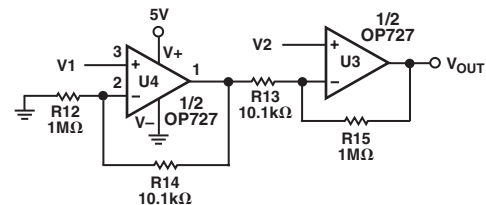

Figure 5. Single-Supply Micropower In-Amp
OP727 can be used to build an instrumentation amplifier (IA) with two op amps. A single-supply instrumentation amplifier using one OP727 amplifier is shown in Figure 5. For true difference, $R14/R12 = R15/R13$. The formula for the CMRR of the circuit at dc is $CMRR = 20 \times \log (100 / (1 - (R15 \times R14) / (R13 \times R12)))$. It is common to specify the accuracy of the resistor network in terms of resistor-to-resistor percentage mismatch. The CMRR equation can be rewritten to reflect this $CMRR = 20 \times \log (10000 / \text{mismatch})$. The key to high CMRR is a network of resistors that is well matched from the perspective of both resistive ratio and relative drift. It should be noted that the absolute value of the resistors and their absolute drift are of no consequence. Matching is the key. CMRR is 100 dB with a 0.1% mismatched resistor network. To maximize CMRR, one of the resistors such as R12 should be trimmed. Tighter matching of two op amps in one package (OP727) offers a significant boost in performance over the triple op amp configuration. For